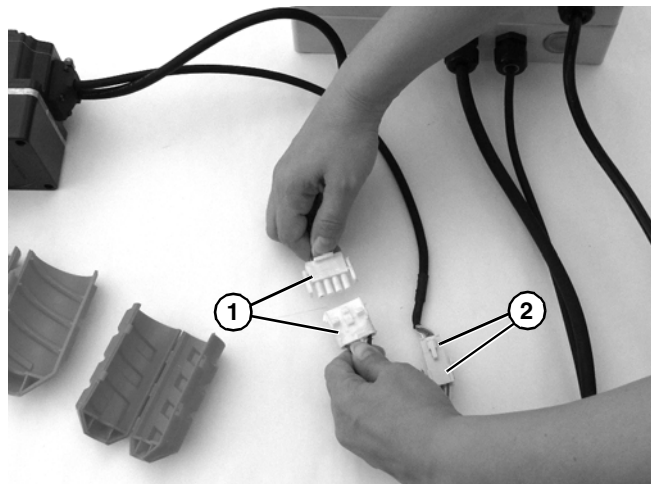

Figure 12
4. Unplug motor cord connectors (**Figure 12, item 1**) and signal cable connectors (**Figure 12, item 2**).